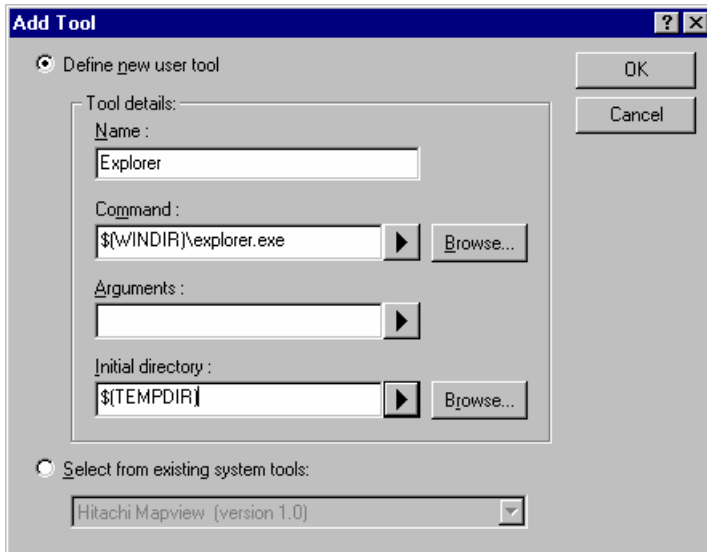

Figure 6.5: Add Tool Dialog
2. Click the “Add...” button (the dialog shown in figure 6.5 will be invoked). If you would like to add an existing system tool to the menu then select the “Select from existing system tools” radio button, choose the tool from the drop-down list and then click “OK”. Alternatively, if you would like to add a tool of your own then follow the remaining steps.